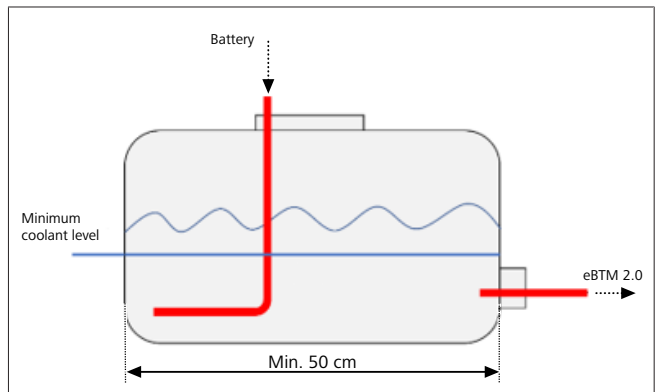
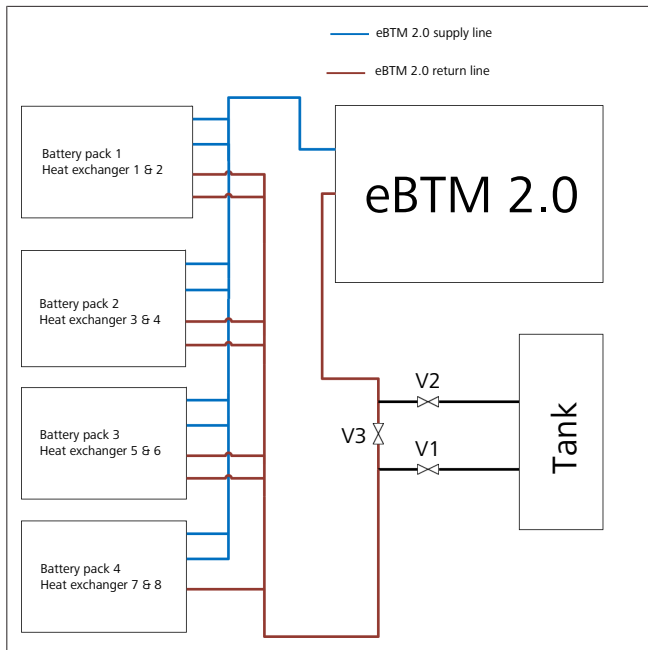

Fig. 19 Tank used for the purging procedure
Fig. 20 Possible layout of the coolant system
- X litres of coolant mixture; 50% Water, 50% Glycol, the quantity of mixture (X) depends on the size of the system (Fig. 19).
- While designing the coolant system Include 3 manual valves close to the return circuit of the eBTM 2.0 as shown in Fig. 20 (V1, V2 and V3). Those are needed to connect the tank used for the purging procedure.
1. Close V1, V2 and V3 (shown in Fig. 20).
3. Connect one end of a hose to the valve V2 (shown in Fig. 20) and the other end of the hose to the bottom part of the tank (shown in Fig. 19).
4. Connect one end of a hose to the valve V1 (shown in Fig. 20) and insert the other end in the upper opening of the tank (shown in Fig. 19).